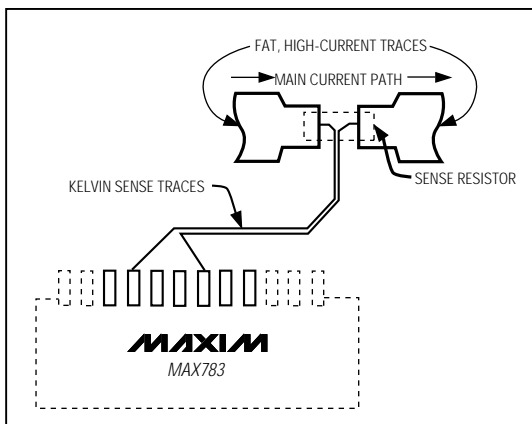

Figure 5. Kelvin Connections for the Current-Sense Resistors
Since the sense resistance values (e.g., $R_1 = 25\text{m}\Omega$ for $I_{\text{OUT}} = 3\text{A}$) are similar to a few centimeters of narrow traces on a printed circuit board, trace resistance can contribute significant errors. To prevent this, Kelvin connect the CS₋ and FB₋ pins to the sense resistors; use separate traces not carrying any of the inductor or load current, as shown in Figure 5. Run these traces parallel at minimum spacing from one another. The wiring layout for these traces is critical for stable, low-ripple outputs (see the *Layout and Grounding* section).
2. Keep the Kelvin-connected current-sense traces short, close together, and away from switching nodes. See Figure 5. Important: Place the current-sense resistors close to the IC (less than 10mm away if possible).